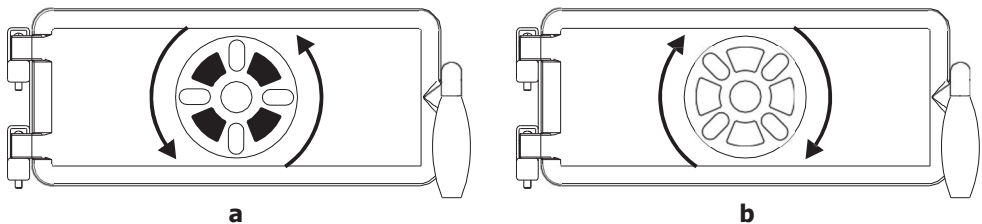

Figure 4
Set the primary air regulator (Figure 1 pos. 14) in open position (Figure 4-a) during ignition and keep it in that position until the cooker is in stable operation after inserting larger pieces of wood. Then set the regulator in the closed position (when burning wood and wood briquettes - Figure 4-b) and keep it in that position while the cooker is in operation. When closed, the regulator prevents the supply of air under the grille, which reduces the intensity of burning. If the fuel is of poor quality, partially open the regulator. With the primary air regulator closed (Figure 4b), the nominal output of 7.75 kW is achieved.